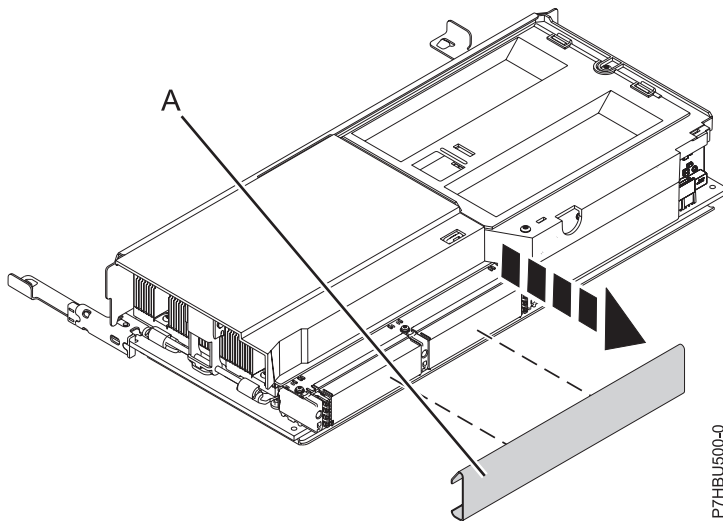

Figure 2. Removing the protective cover from the connector pins
11. Check for the protective cover that might be present on the lower-right connector pins. If a protective cover is present, remove the cover (A), as shown in Figure 2.